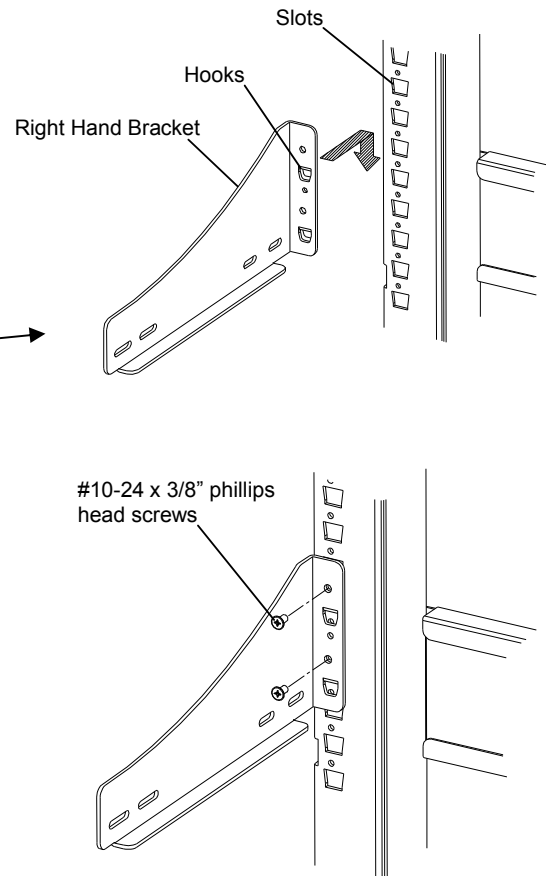

Figure 2.
2. Lock each Bracket in place using two #10-24 x 3/8" pancake phillips head screws (provided). See figure 2.